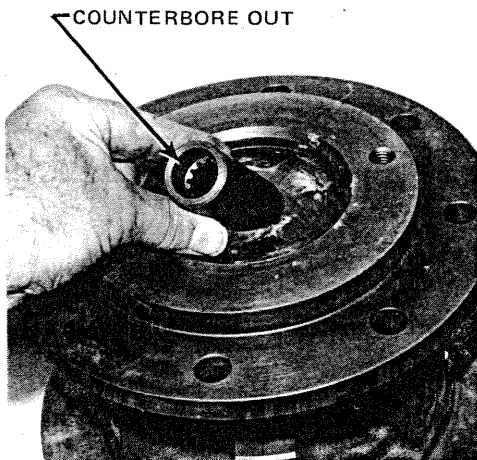

Figure 15 Assemble Coupling
**STEP 1** Slide the coupling from splines on input shaft, (Figure 15).
**STEP 19** Invert the Power Wheel assembly and assemble the coupling with end having splines extending to end of coupling located in as shown, (Figure 15).